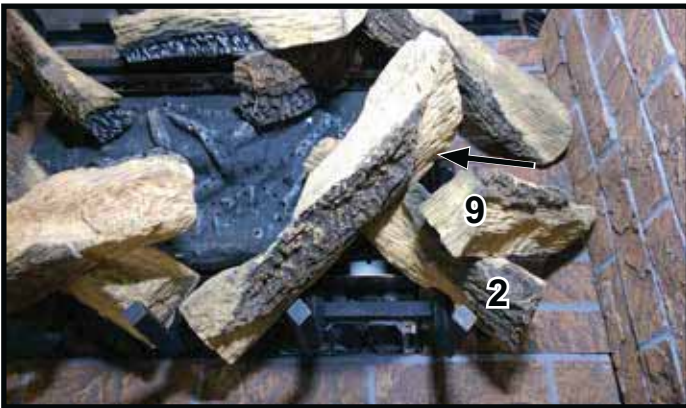

Figure 18. Log 9 from rear.
**LOG NUMBER 9 (SRV2272-708):** Note that Logs #9 and #10 are identical to each other. Place Log #9 on the groove on Log #2 with the end resting against the side and bottom brick panels as shown in Figure 18.